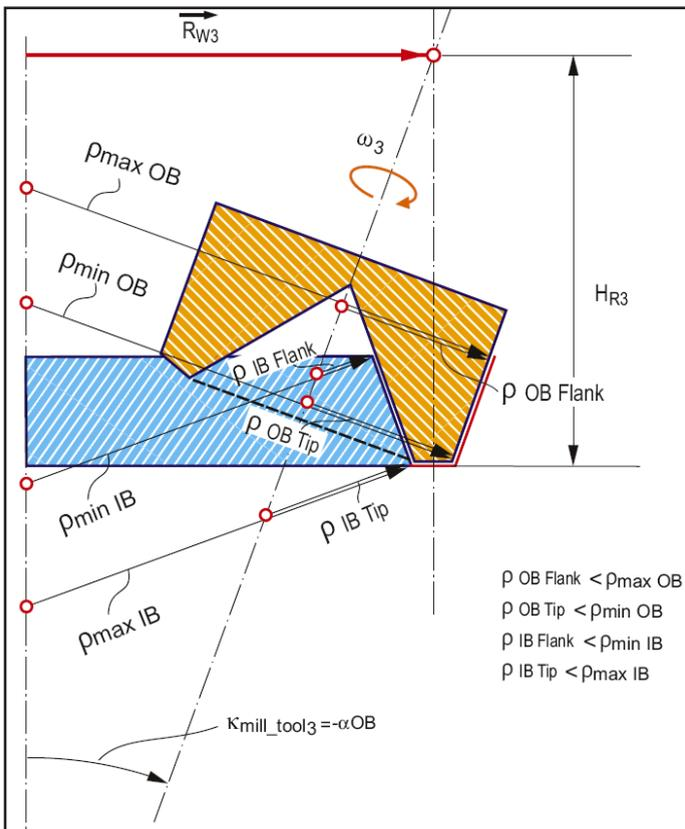

Figure 9 Cylindrical tool with conical inside profile.
If the tool diameter is increased to a certain extent, it becomes possible to machine the second flank (*IB*) simultaneously to the first (*OB*-flank (Fig. 9)).
- $\rho_{OB\ Tip} \leq \rho_{minOB}$  (given in Fig. 9)
- $\rho_{OB\ Flank} \leq \rho_{maxOB}$  (given in Fig. 9)
- $\rho_{IB\ Tip} \geq \rho_{maxIB}$  (not given in Figure 9)
- $\rho_{IB\ Flank} \geq \rho_{minIB}$  (not given in Figure 9)
The diameter of the cutting tool (Fig. 9) has to be increased until the axis of rotation crosses the origin of  $\rho_{minOB}$  (intersection with original cutting tool axis). In such a case,  $\rho_{IB\ Tip} = \rho_{maxIB}$  and  $\rho_{IB\ Flank} > \rho_{minIB}$  applies (Fig. 10).  $\kappa_{mill\_tool}$  (Fig. 10) is still  $-\alpha_{OB}$